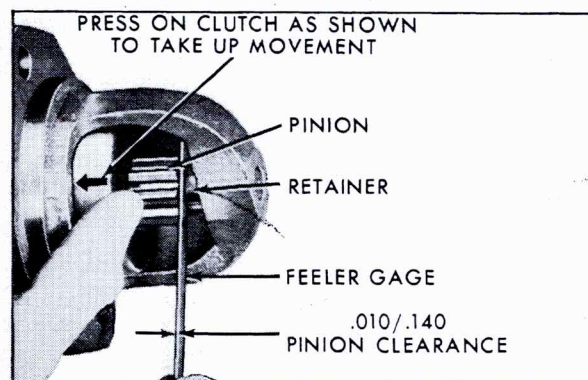

Fig. 6-14 Checking Pinion Clearance
a. Preferred Method (Fig. 6-14)
3. After energizing solenoid, press on clutch, Fig. 6-14, to take up movement.
b. Alternate Method (Fig. 6-14)
5. After energizing solenoid, press on clutch, Fig. 6-14, to take up movement.
6. Push pinion away from stop retainer as far as possible and use feeler gage to check clearance between starter motor pinion and pinion stop retainer, Fig. 6-14. Clearance should be .010 inch to .140 inch when pinion is in cranking position.